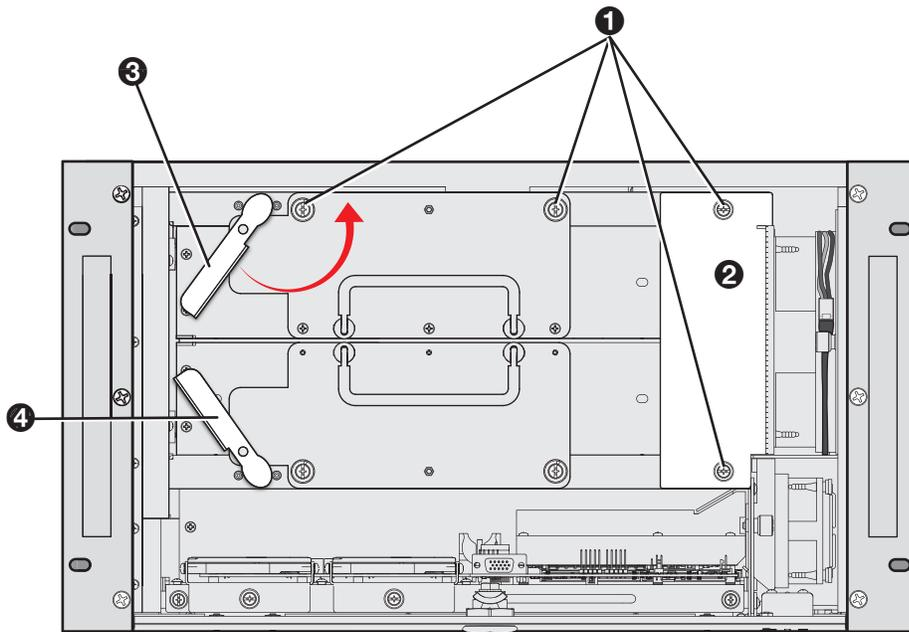

Figure 1. Unfastening the Power Supply
- Using a screwdriver or other tool, loosen the two thumbscrews on the power supply and the two thumbscrews on the protective cover panel (see figure 1, ①).
- Remove the cover panel (②).
- Rotate the primary power supply lever to the right (③) until it is in a horizontal position, parallel to the top and bottom of the unit.
NOTE: If you are removing the **redundant power supply**, rotate **its** lever (see figure 1, ④) to the right instead of the primary supply lever (③).